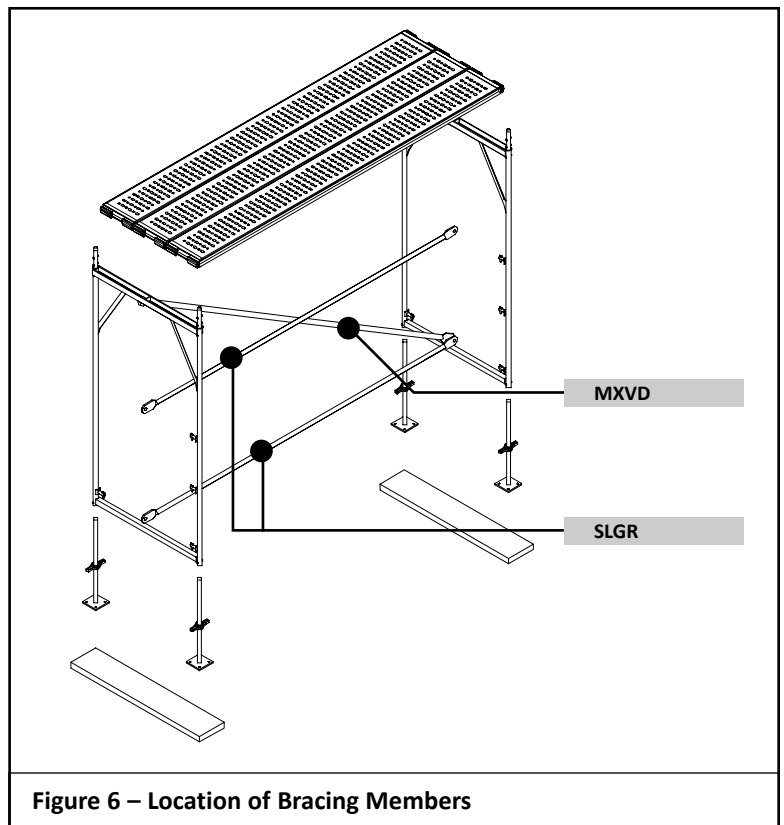

Figure 6 – Location of Bracing Members
- Adjust screw jacks until frames are plumb and level (Figs. 6, 3.1).
Vertical diagonal bracing must first be placed in the inside slot on the bottom of the top horizontal member of the first scaffold frame and then placed over the drop lock stud on the bottom of the other frame in the bay (Fig. 6). A vertical diagonal brace must also be installed in each vertical lift as the scaffold is erected higher.